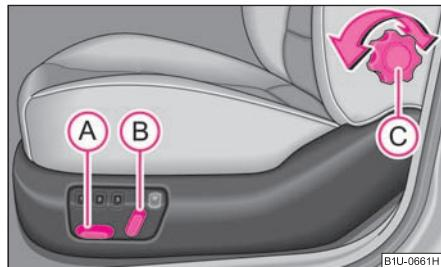

Fig. 55 Side view: Controls for adjusting the seat
- Press the switch ① or ② in the direction of the desired setting ⇒ fig. 55.